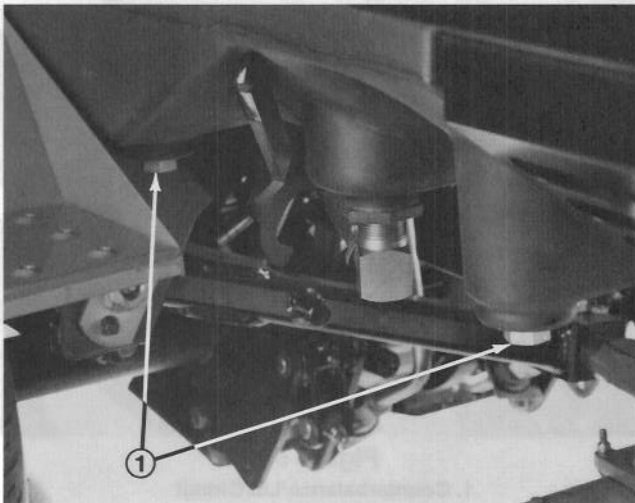

Figure 46
2. Remove drain plugs (Fig. 46) from both ends of reservoir and let hydraulic oil flow into drain pan. Reinstall and tighten plugs when hydraulic oil stops draining.